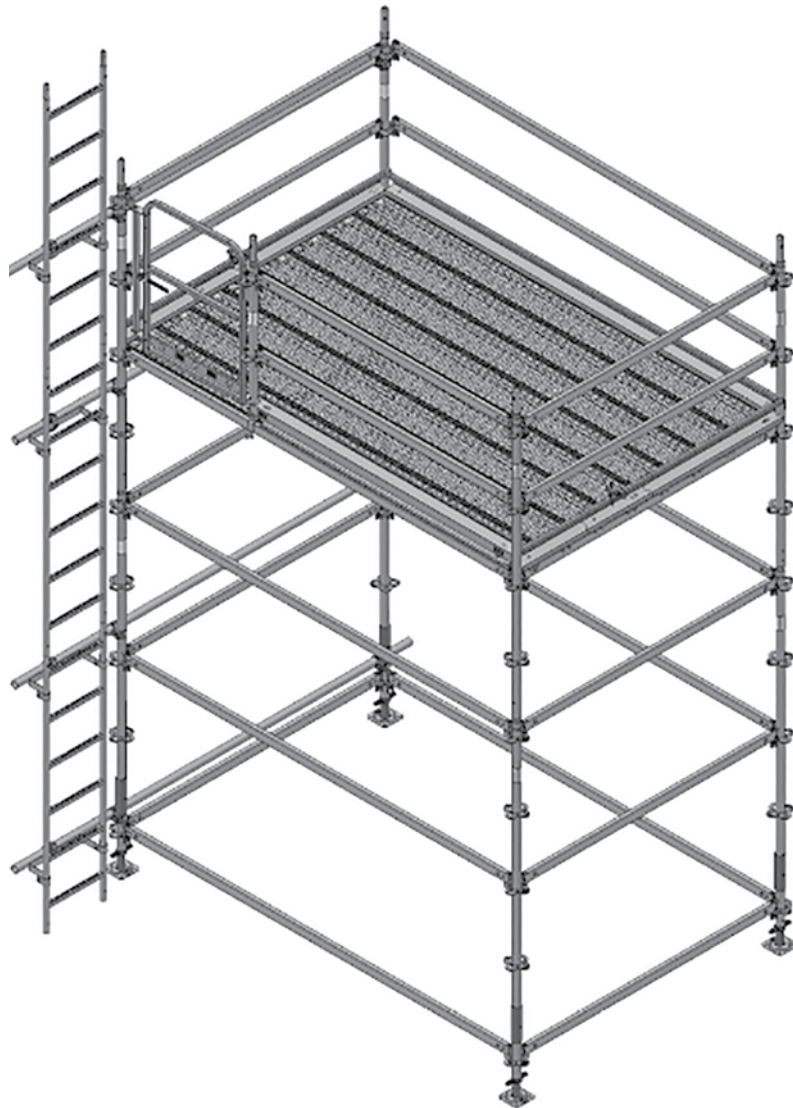

Fig. A3.06
2. Mount the Ladder Connectors. (Fig. A3.06)